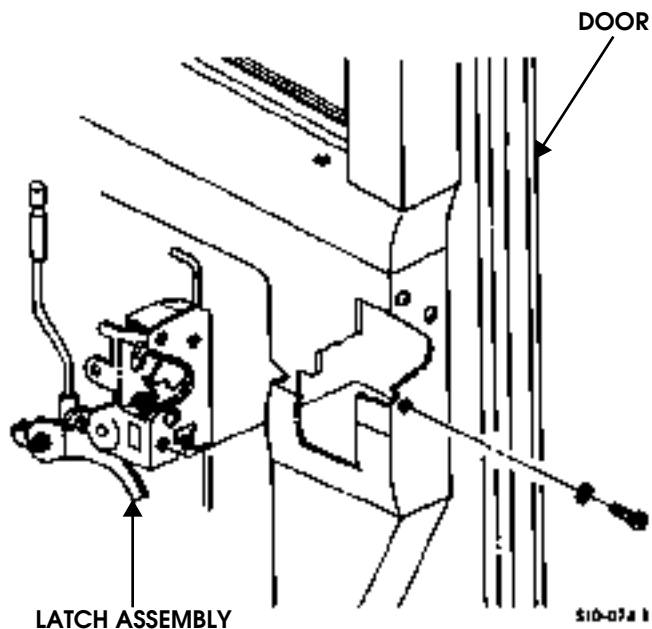

Figure 10-64: Latch Assembly
11. Remove screws, lockwashers, and latch assembly from door (Figure 10-64).
2. Install all rods on door latch assembly (Figure 10-64).